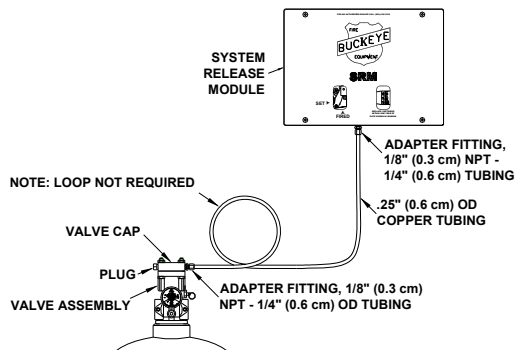

Figure 4-3.
1. The (4) mounting screw holes in the bottom of the Systems Releasing Module(s) must be filled. The Systems Releasing Module(s) Connection Kit includes four (4) 1/4 (0.6 cm)-20 x 7/8 (2.2 cm) socket head screws to accomplish this. See **Figure 4.3**.